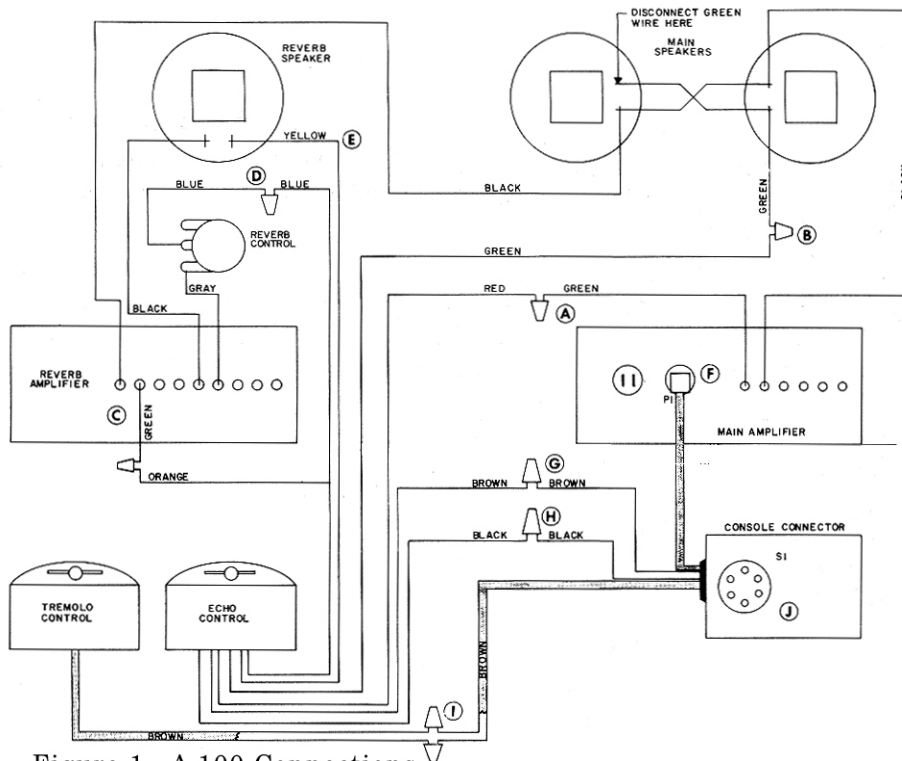

Figure 1 A 100 Connections
5. Cut the green lead which connects the amplifier output to the main speakers. (A & B on figures 1 & 2) Remove 3/8" of insulation from each of the cut ends. Connect the amplifier end of this lead to the red lead from the echo control with a wire nut. Connect the speaker end of the lead to the green lead from the echo control. (B on figures 1 & 2)
6. Disconnect the reverberation input lead (green) from the main speakers. Strip and connect it to the orange lead from the echo control with the wire nut provided. (C on figures 1 & 2)
7. Detach the "hot" lead (gray or blue) from the reverberation speaker terminal, strip it about 3/8", and connect it to the blue lead from the echo control with the wire nut provided.(D on figures 1 & 2)
8. Solder the yellow echo control lead to the "hot" reverberation speaker terminal. (E on figures 1 & 2)
9. **A100:** Connect the plug from the console connector into the 5-contact socket on the rear apron of the power amplifier chassis. (F on figure 1)
10. Connect the brown lead from the echo control to the short, single, brown lead* from the console connector, with the wire nut provided. (G on figures 1 & 2)
11. Connect the black lead from the echo control to the black lead from the console connector, with the wire nut provided.(H on figures 1 & 2)
12. Connect the brown double wire from the tremolo control to the short, double, brown wire from the console connector, with the wire nuts provided. (I on figures 1 & 2)
8. Connect the brown lead from the echo control to the brown lead from the console connector with the wire nut provided. (G on figures 1 & 2)
9. Connect the black lead from the echo control to the black lead from the console connector with the wire nut provided. (H on figures 1 & 2)
10. Connect the brown wire from the tremolo control to the short wires on the console connector with the wire nuts provided. (I on figures 1 & 2)